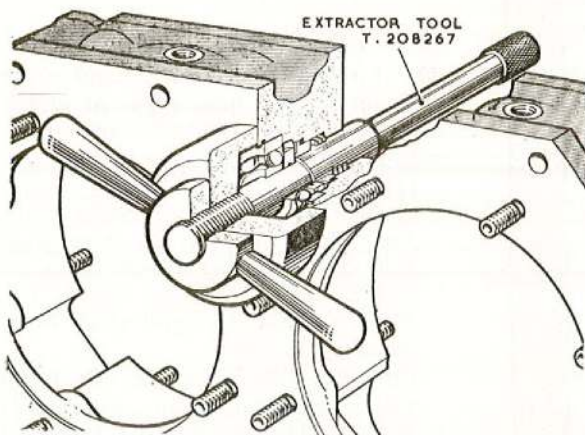

Fig. 6. Removing the governor rotor ball-bearing
33. Extract the circlip and, using the extractor T.208267, withdraw the bearing from the camplate housing (fig. 6). Take out the shim (49) and note its thickness, then remove the abutment ring, carbon-faced seal and spring.